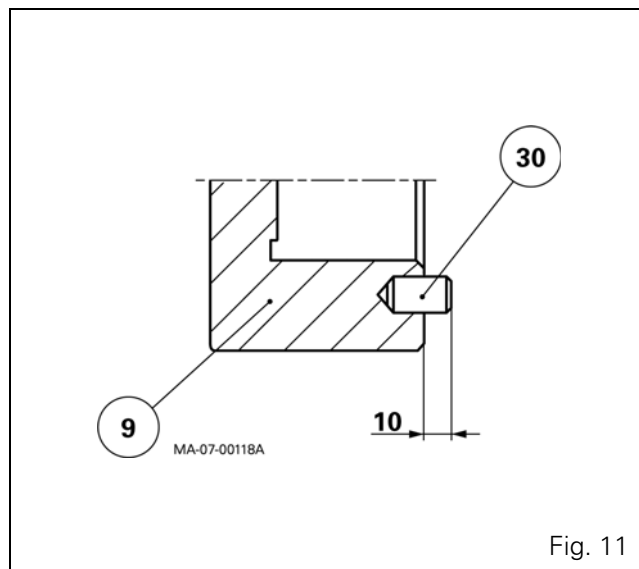

Fig. 11
Two pins (30) are inserted into the housing unit (9) 10 mm from the face (Fig. 11).
38. Using a suitable fixture and a press, insert the bearing (7) home against the shoulder.